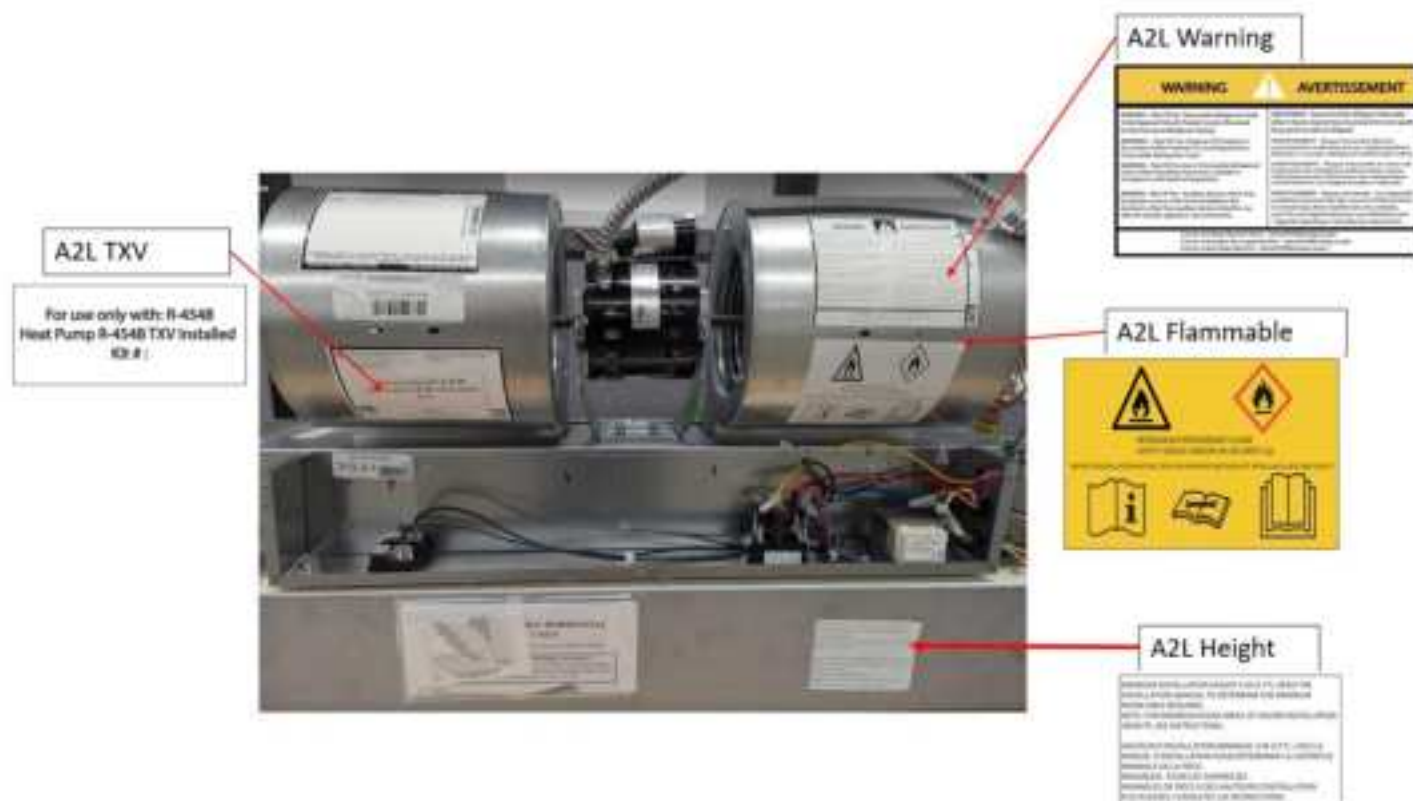

Figure 3: Additional Label Placements
1. Attach the 4 labels provided in kit as shown in Figure 3.